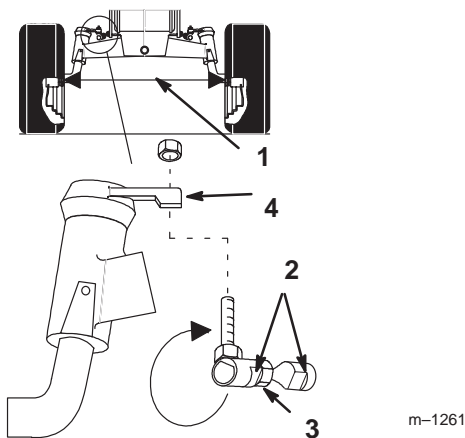

Figure 33
Maintain toe-in of the front wheels as specified. If uneven tire wear, lawn scuffing or hard steering develop adjustment may be required. Check the toe-in after every 100 operating hours or yearly, whichever occurs first (Fig. 33).
3. Measure, between the rims, at spindle level, in the front and rear of the wheels (Fig. 33).
2. Remove ball joint from one steering lever (Fig. 33).
4. Hold flats on ball joint to align with flats on tie rod and tighten jam nut (Fig. 33).